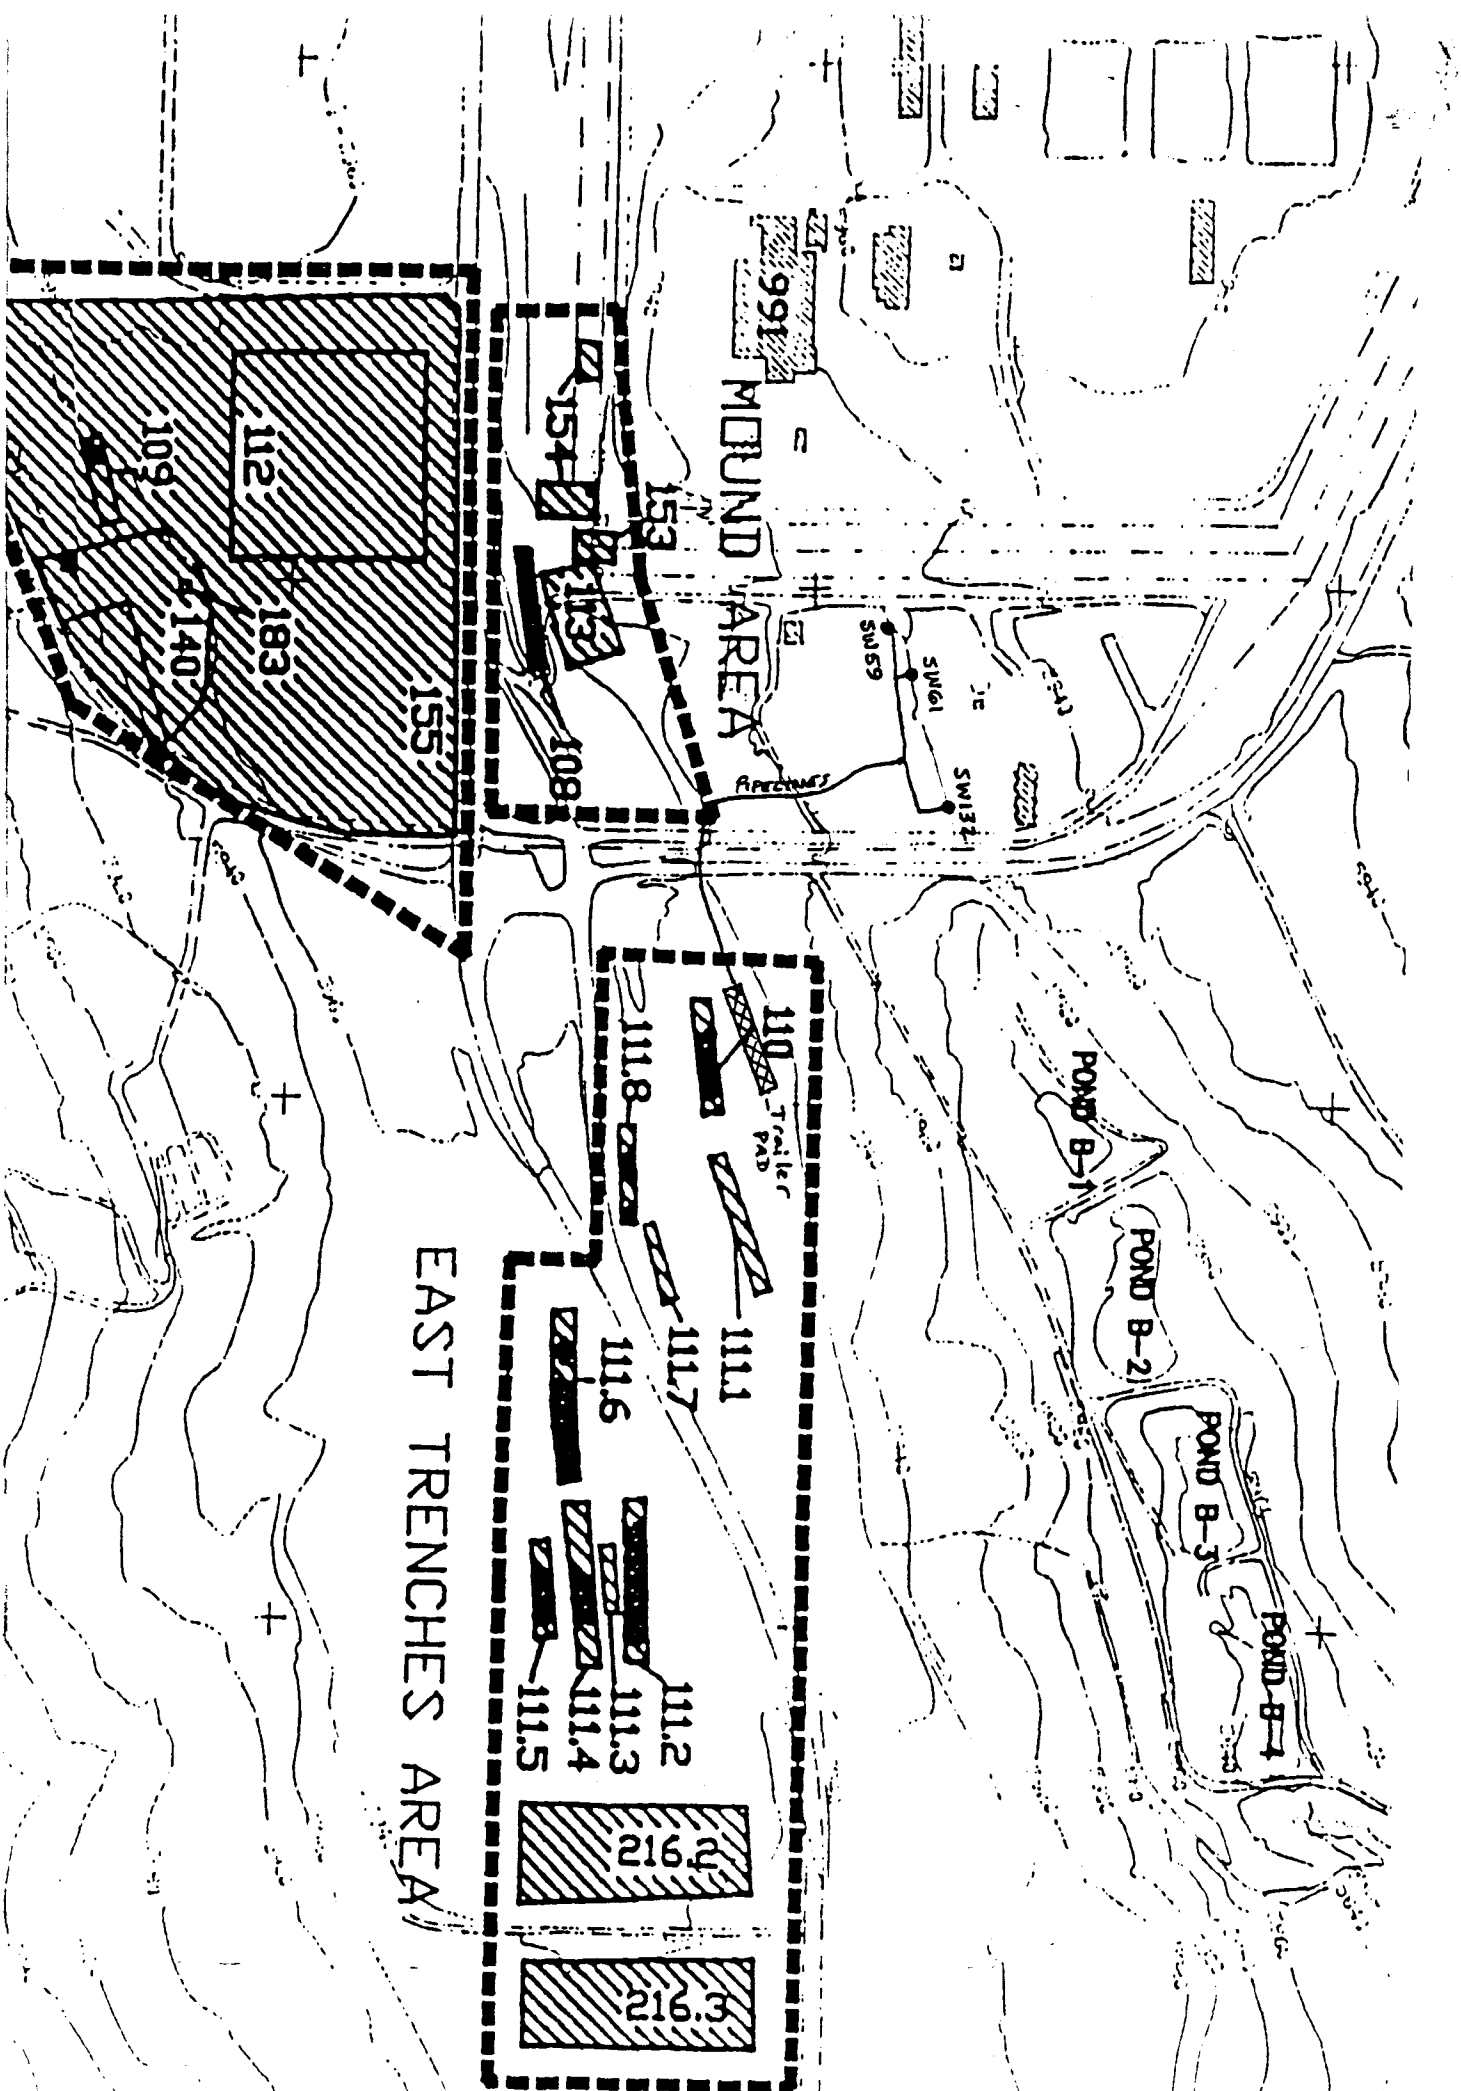

FIGURE 1 - IHSS LOCATIONS
The OU2 is comprised of the 903 Pad, Mound, and East Trenches Areas which are located east-southeast of the RFP as shown in Figure 1. The areas of OU2 lie within either the South Walnut Creek or Woman Creek drainage basins. Twenty sites, designated as IHSSs, lie within OU2: five in the 903 Pad area, four in the Mound area, and 11 in the East Trenches area.
The East Trenches Area consists of 9 trenches which were previously used to dispose of depleted uranium, flattened depleted uranium and plutonium-contaminated drums and sanitary sludge. These may be found in figure 1 as follows:
Also present in the vicinity of the **OU2** are six (6) other IHSS previously designated as Solid Waste Management Units (SWMU) (see Figure 1):